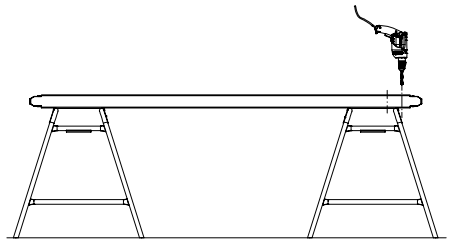

Fig. 3a
- Drill into chord,  $\varnothing$  11 mm. (Fig. 3a)